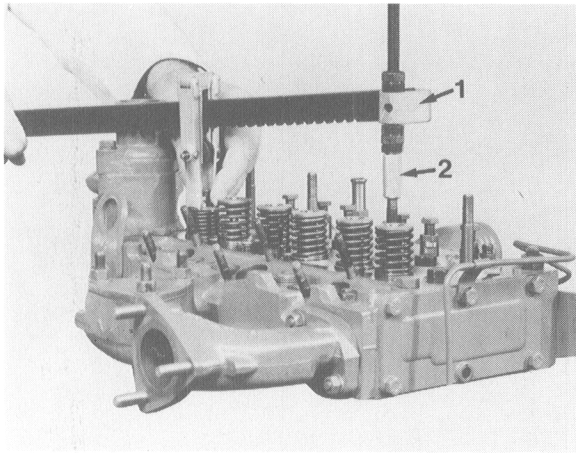

Fig. F5
- | Compress the valve springs with a suitable valve spring compressor (see fig. F5) and remove the split collets. Tool 6118B with adaptor PD6118-3 can be used to compress the valve springs with the head on a flat surface.